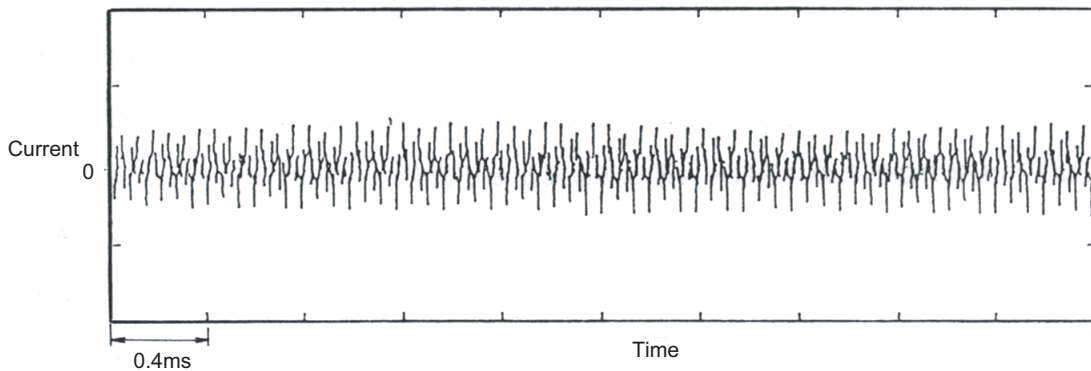

**Fig.5.15 Earthing (grounding) methods**
Moreover, the same charging/discharging leakage current flows to the motor to which the output voltage of this inverter is applied, and it becomes a larger current value with more high frequency components compared to that in the operation with the commercial power supply as shown in Fig.5.15 in this section. The higher the inverter carrier frequency is, the stronger this tendency develops.
- (a) If possible, use independent earthing (grounding) for the inverter. (Refer to Fig.5.15 in this section)
If independent earthing (grounding) (Fig.5.15 (I)) is impossible, use common earthing (grounding) (Fig.5.15 (II)) where the inverter is connected with the other equipment at an earthing (grounding) point.
Common earthing (grounding) as in (III) of Fig.5.15 must be avoided as the inverter is connected with the other equipment by a common earthing (grounding) cable.